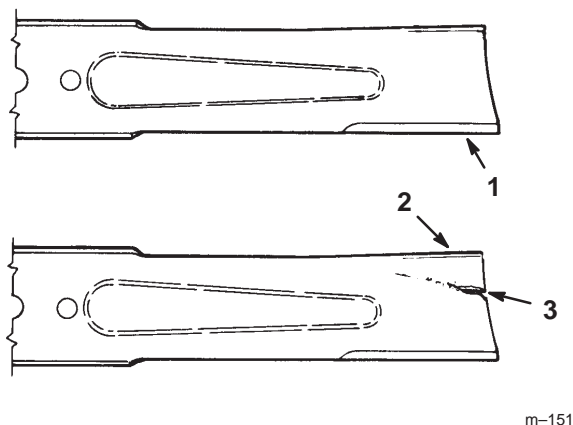

Figure 38
1. Inspect the cutting edges (Fig 38). If the edges are not sharp or have nicks, remove and sharpen the blades. Refer to Sharpening the Blades on page 33.
2. Inspect the blades, especially the curved area (Fig. 38). If you notice any damage, wear, or a slot forming in this area (item 3 in Fig. 38), immediately install a new blade.